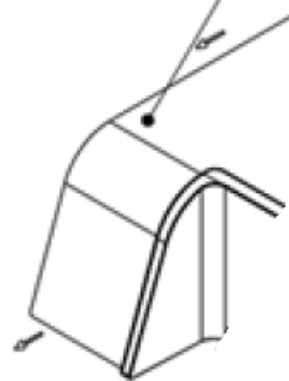

Fig 2.0
- Remove the earth cable attached to the front panel located bottom left side as per Fig 2.0.
- Ensure all cables are correctly inserted into the main PCB board and relocate the S/S panel back on the machine ensuring the earth cable is re-inserted to the front panel, fig 2.0.